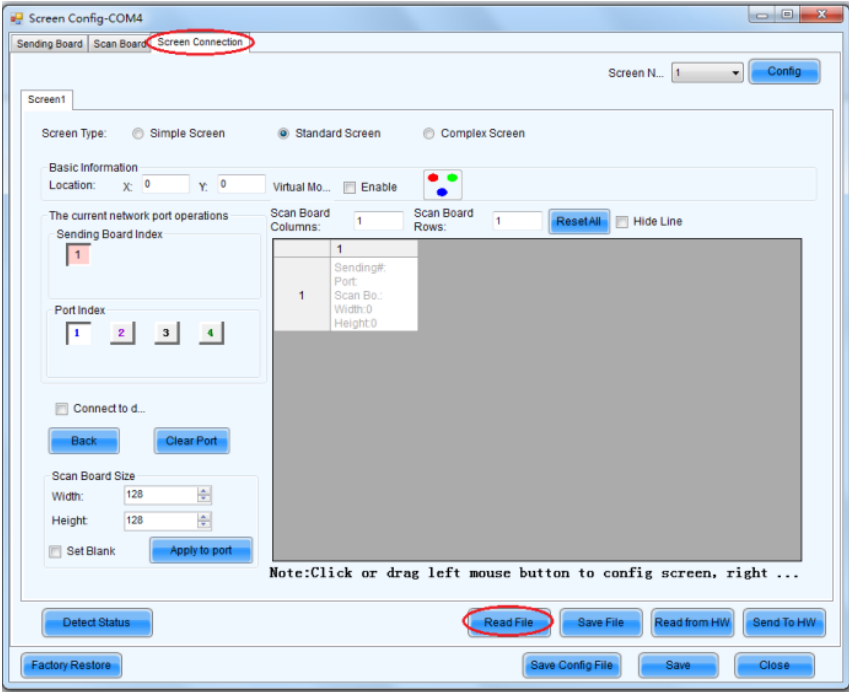

Figure 3-9 Screen Connection 1
- 1) Click **Load File** to load the file xxxx.scr stored in the optical disk, as shown in Figure 3-9: